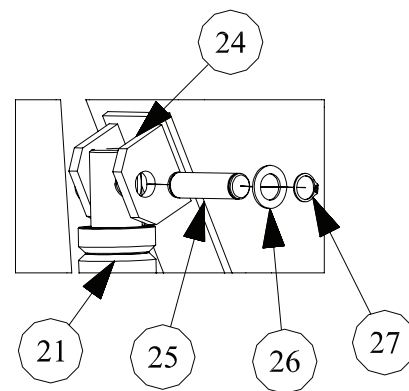

Figure 9
6. Mount the rod end of the hydraulic cylinder [#21] to the cylinder mounting bracket [#24] located on the boom by aligning the cylinder's hole with the holes in the mounting bracket and insert the 3/4" upper cylinder retaining pin [#25] as shown in Figure 9.